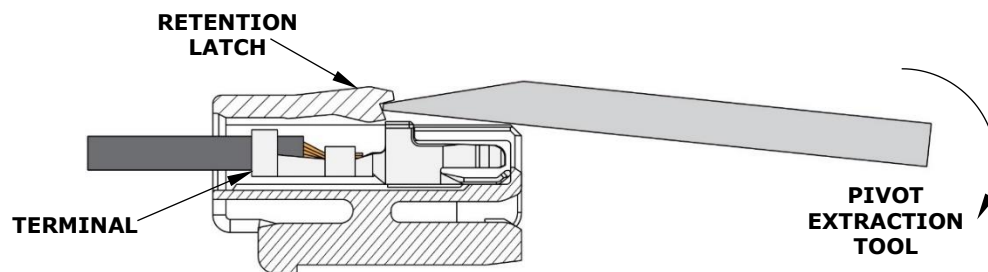

Figure 41
7. Pivot the extraction tool as shown in Figure 41 to lift the retention latch that holds the terminal in place.